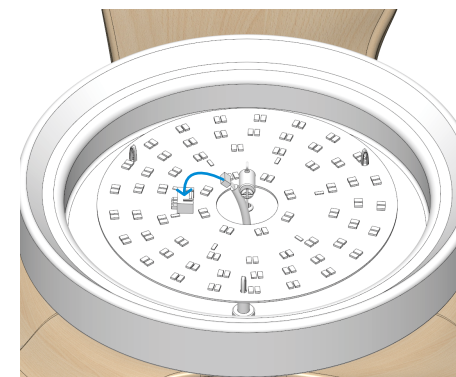

Fig. 3.2
3.2 Insert the wire plug into the light kit terminal block as shown in Fig.3.2.